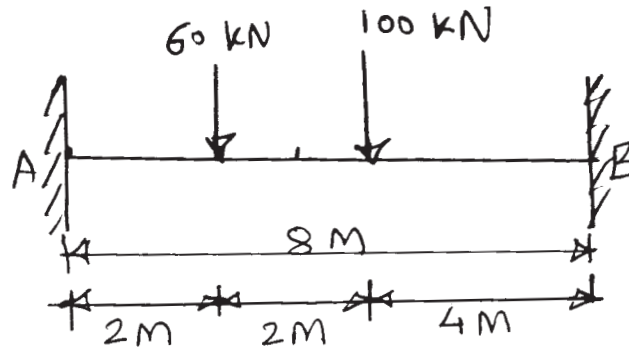

Fig. No. 1
- c) Calculate fixed end moments and draw B.M.D. for a fixed beam as shown in Figure No. 1.